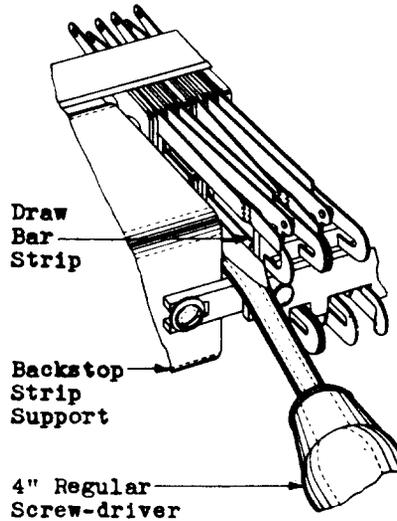

Fig. 8 - Method of Relieving Draw Bar Link of Spring Load
(1) To determine if the shaft or roller moves freely in its bearings raise the lever to a position between the non-operate and operate positions so that the roller rests on the link between the two openings. Then place the blade of the 4" regular screw-driver against the left end of the draw bar strip, using the support at the left of the switch as a fulcrum as shown in Fig. 8. Move the draw bar to the right by moving the screw-driver handle to the left enough to remove the spring load from the roller. Raise and lower the lever while the load is thus removed and spin the roller using an orange stick. If a bind is noticed, proceed as follows:
(2) Remove the back stop strip, the support plate and the draw bar strip, the link and support assembly, as covered in procedure 3.03.